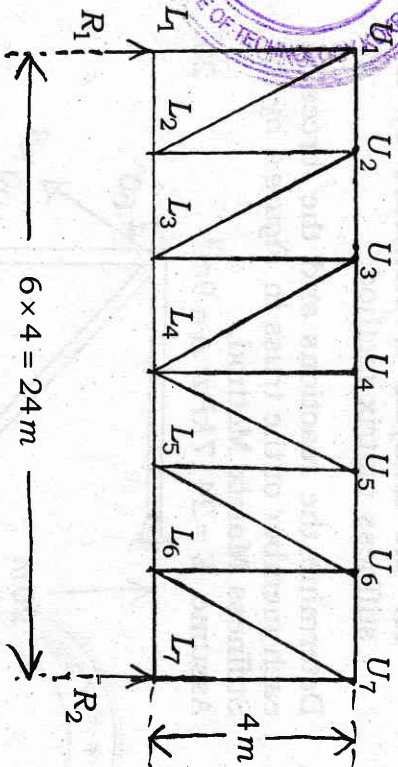

Figure 3
4. Draw ILD for the forces in the members of the bridge truss as shown in the Figure 3. 20